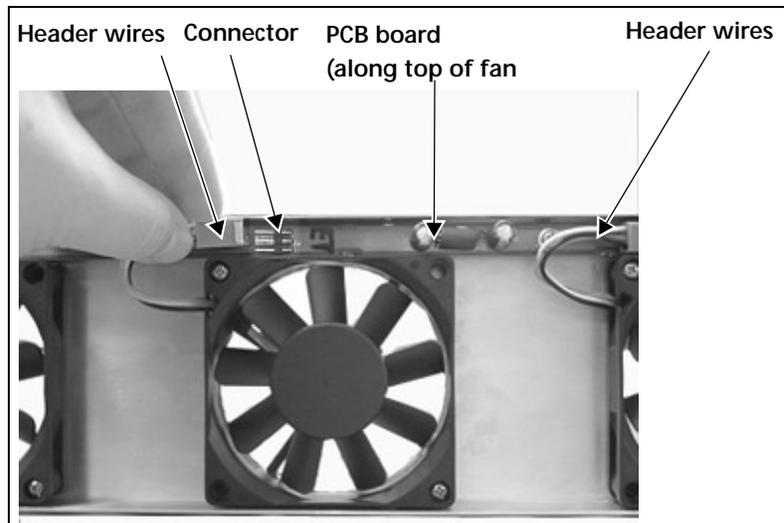

Figure 2-12 Removing Header Wires from Fan Assembly PCB Board
- 5 Identify the fan you are replacing, and then remove the corresponding header wires from the PCB board along the top of the assembly (see Figure 2-12).
(Ensure that the fan labelling is face down, and that the header wiring is at the top left corner of the installed fan, as shown in Figure 2-12 on page 21.)
- 8 Connect each new fan's header wires to the assembly PCB board (see Figure 2-12 on page 21).